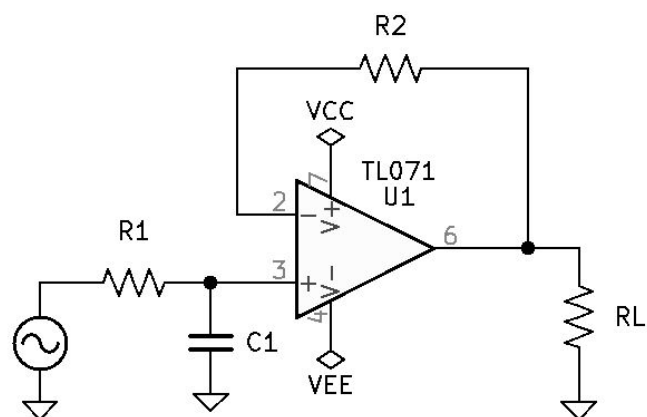

Figure 8.3: Low-Pass First-Order Active Filtering Circuit.
1. See Figure 8.3 *Low-Pass First-Order Active Filtering Circuit* on page 81.